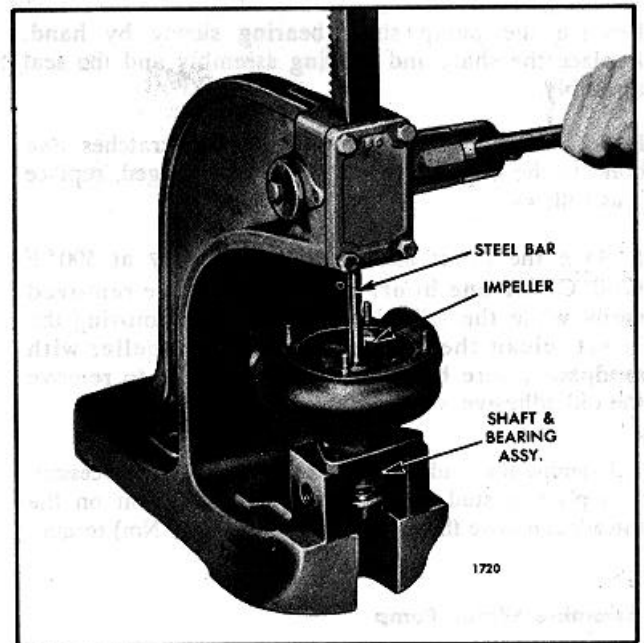

Fig. 4 - Pressing Pump Shaft from Impeller
2. Support the pump on its mounting flange in an arbor press (Fig. 4). Place a short steel rod on the end of the shaft and press the shaft and bearing assembly from the impeller, seal and pump body.